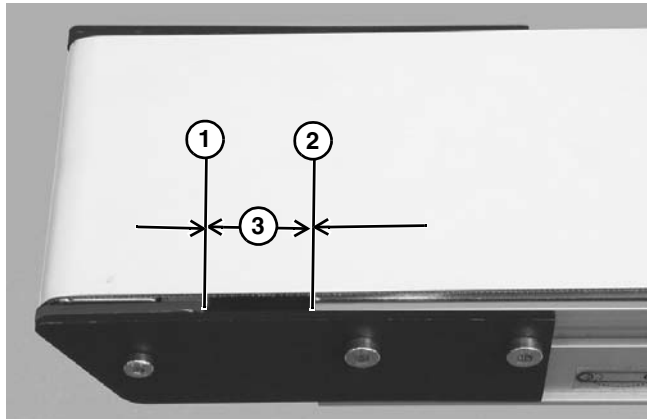

Figure 24
2. Adjust head plate assembly so the edge of the axle support plate (**Figure 24, item 1**) is separated from the end of the conveyor (**Figure 24, item 2**) by 1.125" (29 mm) (**Figure 24, item 3**). Replace belt if proper tensioning can not be obtained within a distance of 1.50" (38 mm). See NOTE.